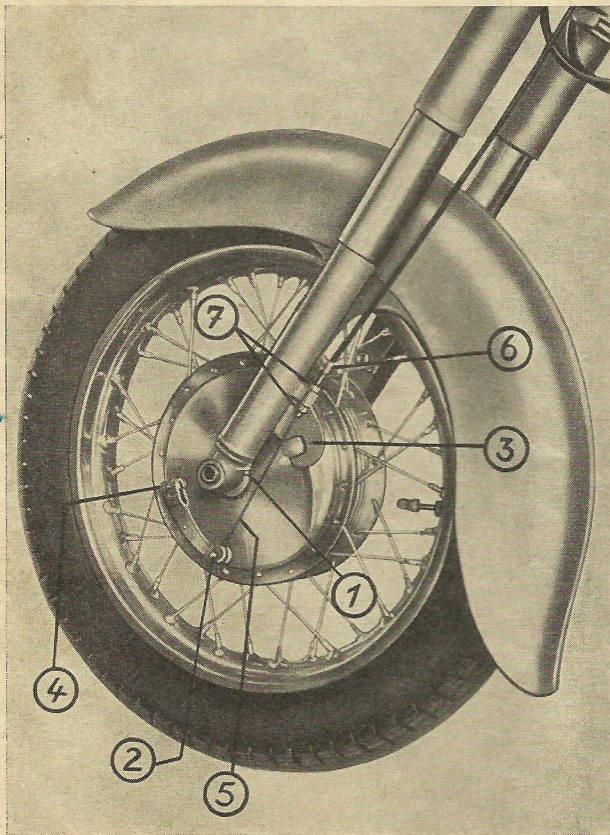
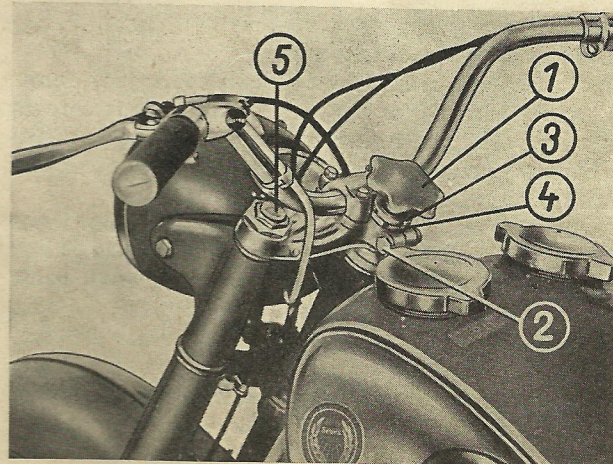

Fig. 1
Fig. 8
- b) remove r. h. crankcase over (see page 13, fig. 8/2) and push external clutch lever on the crankcase forward.
Before starting a new engine, be sure that the telescope fork has been filled up with a sufficient supply of oil. For this purpose unscrew drain plug screws (slotted screws) placed at the fork of the first (fig. 1/1) and the nuts placed at the top bridge piece (fig. 8/5). For checking the quantity of the oil contained, it will be advisable to drain off all of the oil and then re-fill again. Normal quantity of filling 5 cu. in. (80 ccm) each leg. Damping, and subsequently, the softness of the springing depends on the viscosity of the oil. After having covered about 3000 miles (5000 km) drain off the oil and fill up with fresh oil. With new motorcycles, pull out (without dismantling) telescope fork until the interior tubes are bared. Then squirt a few drops
Front wheel: Slacken the clamp screw of the right-hand fork lug (fig. 4/1). Unhook the brake cable (fig. 1/2). Unscrew stub axle (fig. 4/2). While refit-
ting, insert the bolt of the brake plate in the hook of the spring fork (fig. 1/3) and then screw up the stub axle. Drive fork down on the springs several
On bad roads and at speed, it is advisable to tighten the steering damper (fig. 8/1) to a moderate degree. Since every driver wants the damping to suit his own requirements, the most suitable